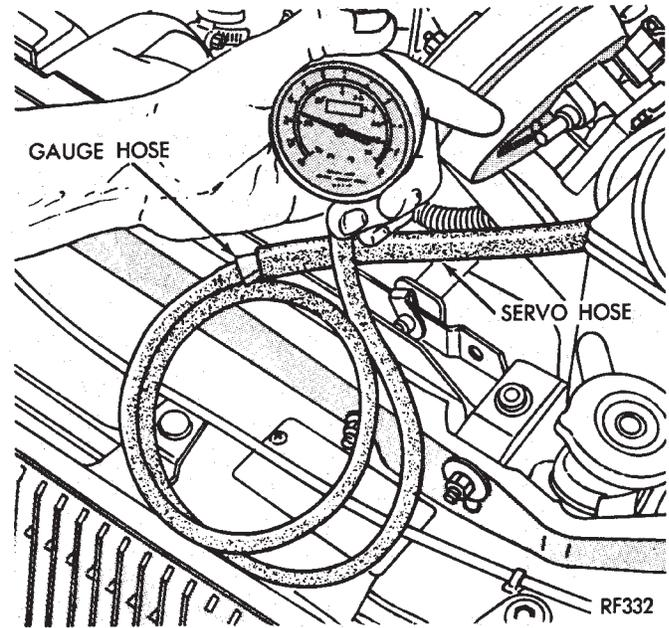

Fig. 17 Vacuum Gauge Test
(1) Disconnect vacuum hose at the servo and install a vacuum gauge in the hose (Fig. 17).